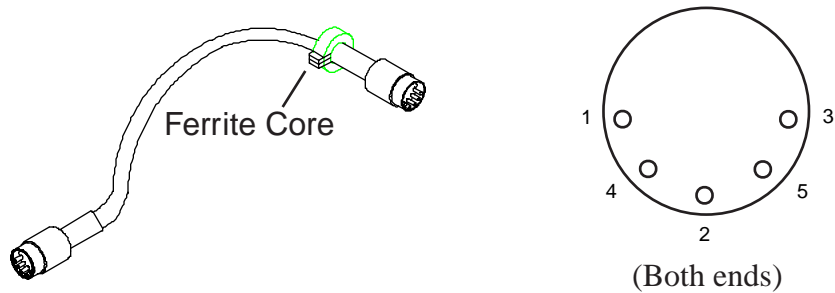

Figure 22. DIN Power Cable
- f. Connect DIN cables (Figure 22) according to chart in Table 11. Ferrite core end must attach to EDAC.